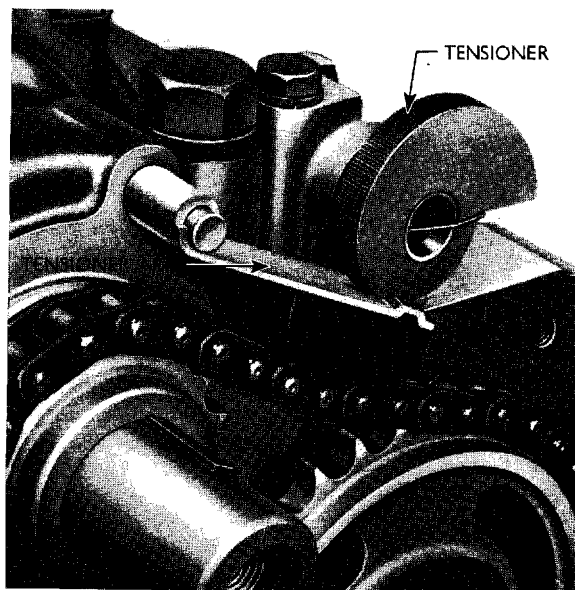

Fig. 11
**10. Remove the timing chain tensioner.** Unscrew the two bolts, then remove the bracket. The tensioner arm may then be detached from the pivot pin (see Fig. 11).